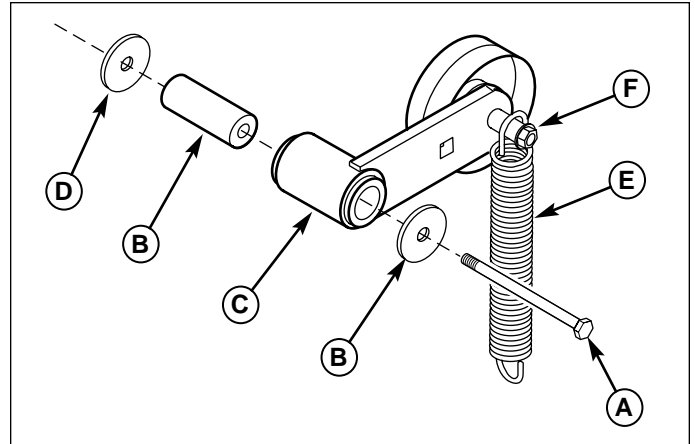

Figure 4. Pump Idler Arm Installation
1. Remove the nut and washer (F, Figure 4) that fasten the spring to the idler arm and replace the old spring with the new. Reinstall the nut and washer (see Figure 4).
2. Reinstall the pump drive idler arm, pivot and hardware to the pump plate in the order shown (see Figure 4).